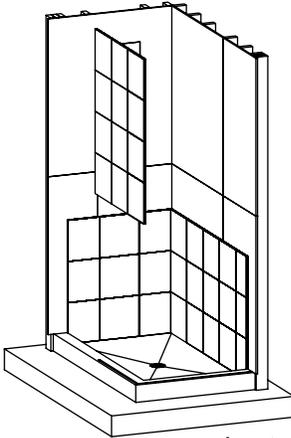

figure 21
5. Continue to dry fit the top panels starting with panel 1T (*fig. 21*). Place the top panel above the bottom panel and match the space between the panels with the rest of the grout lines on the panel. Use spacers if necessary.. Finish the remaining panels in this order: 2T, 3T.